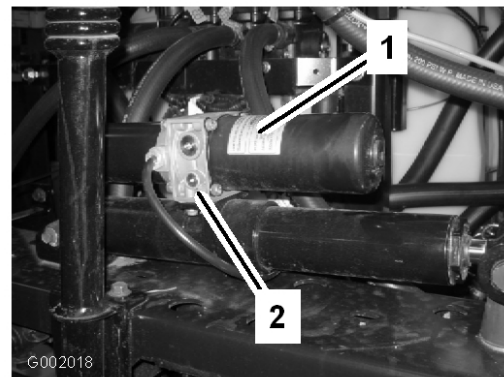

Figure 46
1. Locate the manual relief valve on the actuator for each boom. The manual relief valve is the smaller valve and is only on one side of the actuator body (Figure 46).